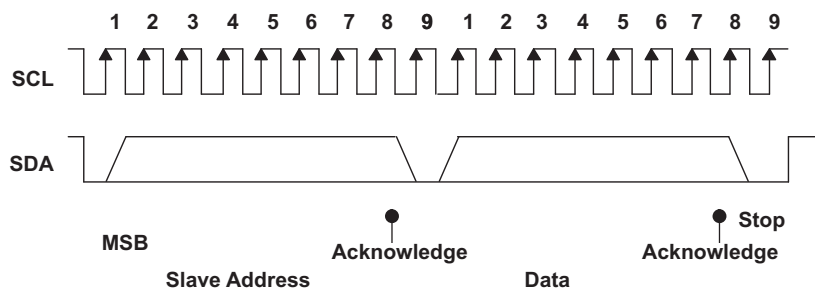

Figure 8. I²C Address and Data Cycles
- The master generates further SCL cycles to either *transmit* data to the slave (R/\overline{W} bit 1) or *receive* data from the slave (R/\overline{W} bit 0). In either case, the *receiver* must acknowledge the data sent by the *transmitter*. So, an acknowledge signal can either be generated by the master or by the slave, depending on which one is the receiver. The 9-bit valid data sequences consisting of 8-bit data and 1-bit acknowledge can continue as long as necessary (see Figure 8).